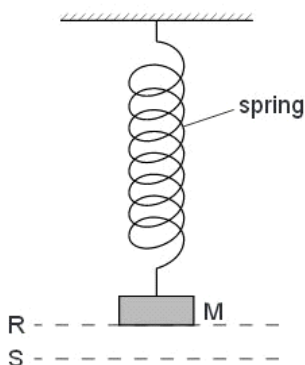

Fig. 6.1
- (b) A spring is attached to a support and hangs vertically, as shown in Fig. 6.1. An object M of mass 0.41 kg is attached to the lower end of the spring. The spring extends until M is at rest at R.
- (c) The object M in Fig. 6.1 is pulled down a further 0.060m to S and is then released. For M, just as it is released,
- (d)** Describe and explain the energy changes from the time the object M in Fig. 6.1 is released to the time it first returns to R.